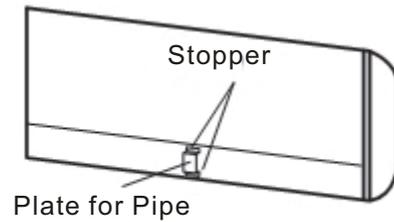

Fig. 5.6
(5) Evacuation and refrigerant charging procedures should be performed according to "Installation & Maintenance Manual" of the outdoor unit.
(7) Fix the plate of pipes (factory-supplied) as shown in Fig. 5.6.